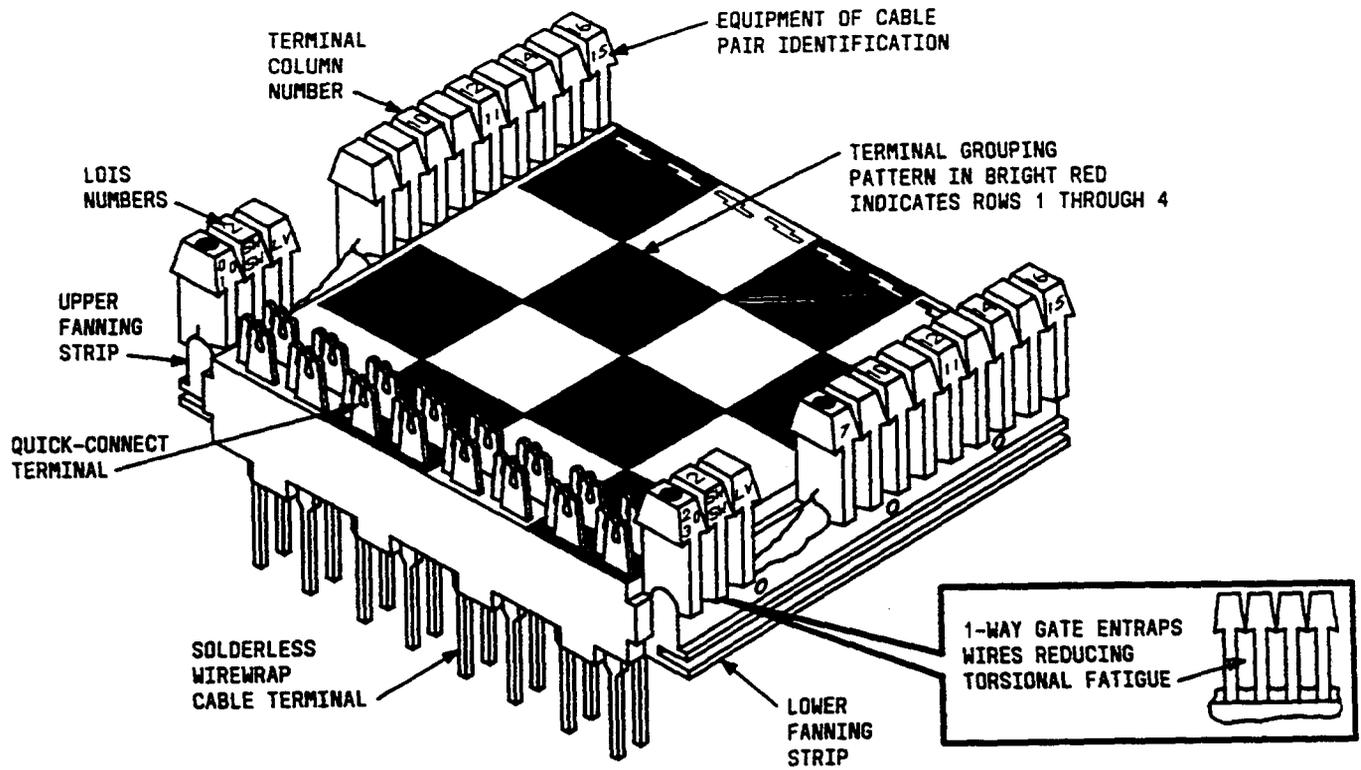
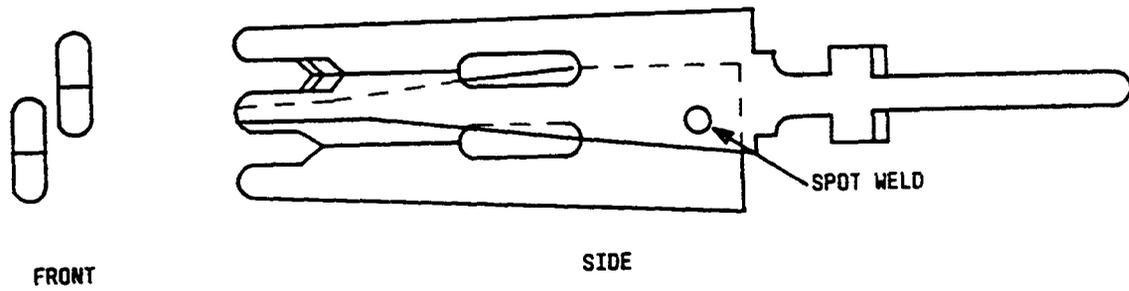

Figure 4—78C-Type Connecting Block Features
Figure 5—Views of Terminal Used on 78C-Type Connecting Blocks
**2.09** Figure 4 shows the features of the 78-type connecting block; Figure 5 shows the bifurcated, insulation displacement-type, quick-connect terminal; Figures 6, 7, and 8 show the 50-, 64-, and 100-pair terminal arrangements; and Table A lists the various 78-type connecting blocks in application order beginning with tie pairs.